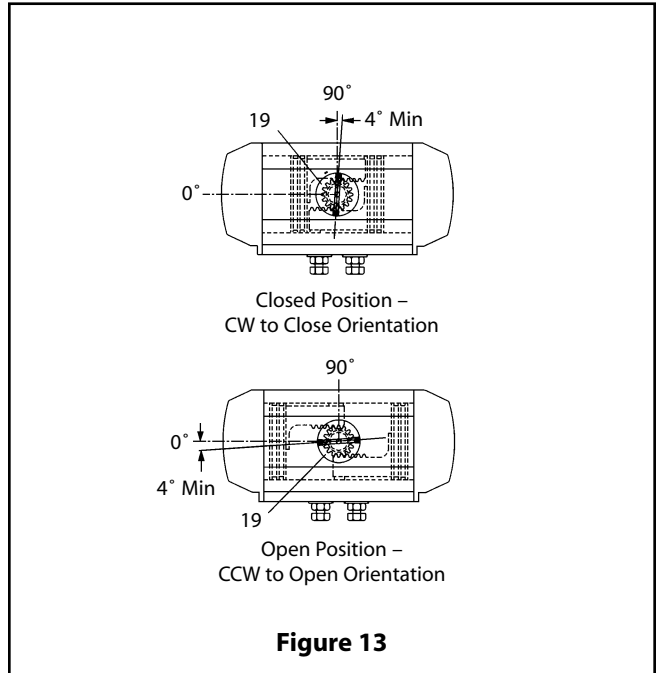

Figure 13
H. Temporarily install the position indicator (19) onto the shaft (60) to determine whether the correct stroke is obtained, Verify that the slot in the top of the position indicator (19) will rotate a minimum of 4° beyond the 90° vertical centerline of the actuator body (50) and a minimum of 4° beyond the 0° horizontal centerline of the actuator body as shown in (Figure 13). If the proper stroke is not obtained, remove the pistons and repeat from step 2d. Once the proper stroke is verified, remove the position indicator (19).